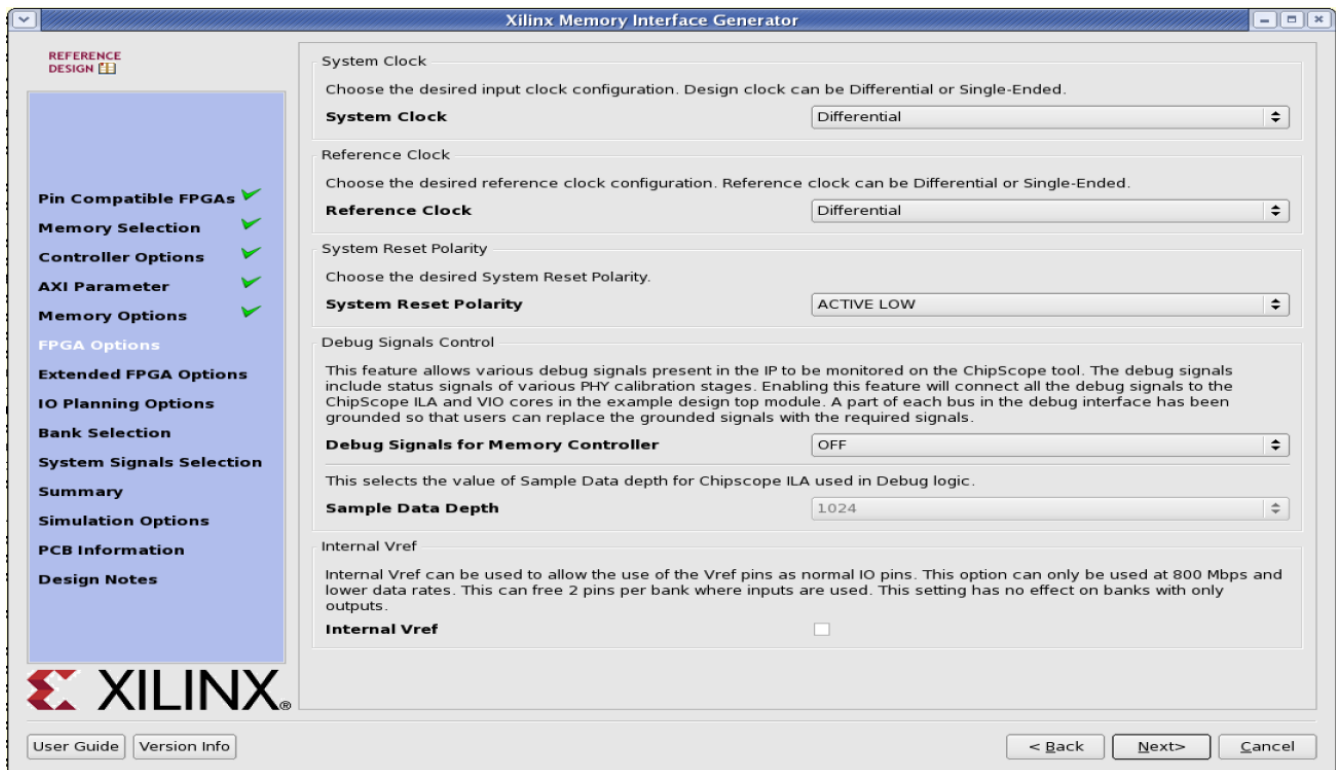

Figure 2-21: **FPGA Options Page**
Figure 2-21 shows the **FPGA Options** page.
- sys\_clk** – This is the system clock input for the memory interface and is typically connected to a low-jitter external clock source. Either a single input or a differential pair can be selected based on the **System Clock** selection in the **FPGA Options** page (Figure 2-21). The `sys_clk` input must be in the same column as the memory interface. If this pin is connected in the same banks as the memory interface, the MIG tool selects an I/O standard compatible with the interface, such as DIFF\_HSTL\_I or HSTL\_I. If `sys_clk` is not connected in a memory interface bank, the MIG tool selects an appropriate standard such as LVCMOS18 or LVDS. The XDC can be modified as desired after generation.
- clk\_ref** – This is the reference frequency input for the IDELAY control. This is a 200 MHz input. The `clk_ref` input can be generated internally or connected to an external source. A single input or a differential pair can be selected based on the **System Clock** selection in the **FPGA Options** page (Figure 2-21). The I/O standard is selected in a similar way as `sys_clk` above.
- **sys\_rst** – This is the asynchronous system reset input that can be generated internally or driven from a pin. The MIG tool selects an appropriate I/O standard for the input such as LVCMOS18 and LVCMOS25 for HP and HR banks, respectively. The default polarity of `sys_rst` pin is active-Low. The polarity of `sys_rst` pin varies based on the **System Reset Polarity** option chosen in **FPGA Options** page (Figure 2-21).